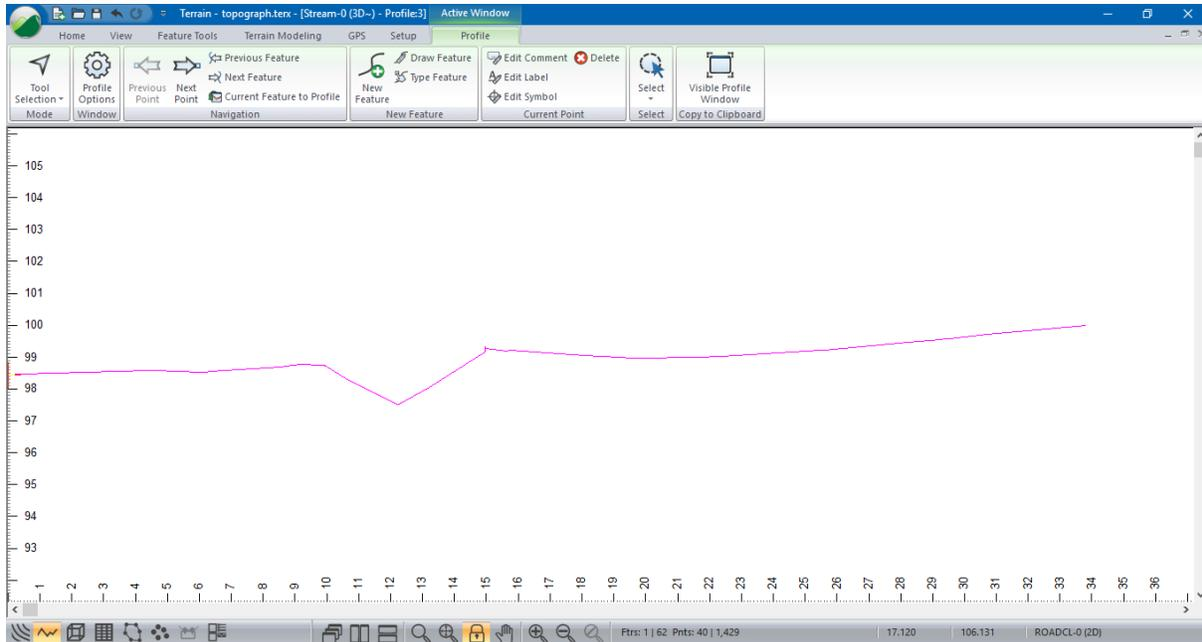

Figure 9-13: ROADCL Profile
13. With the feature selected, select menu *View | New Window | Profile*. Refer to Figure 9-13.